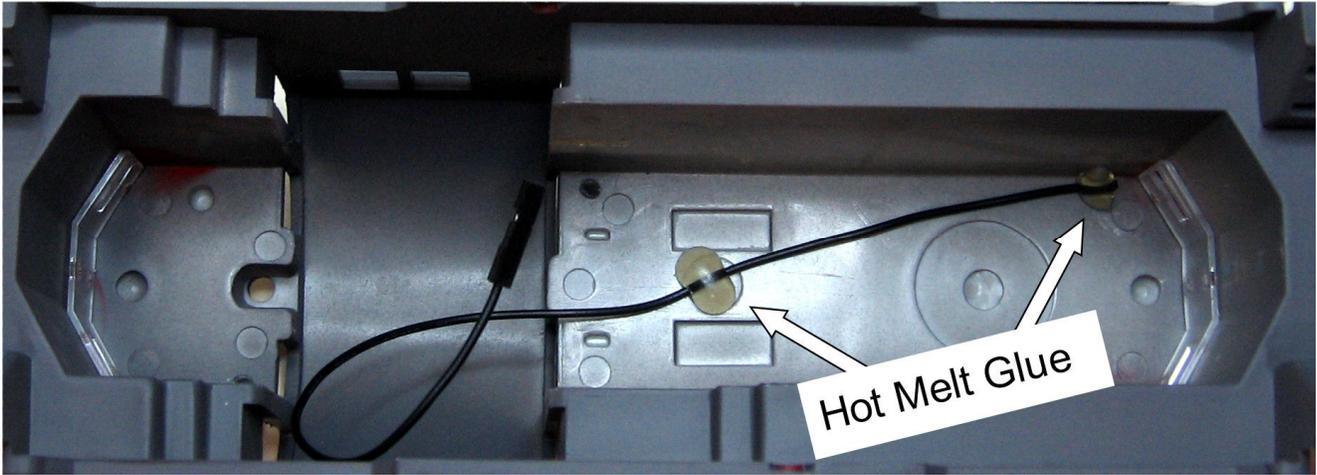

Figure 5 – Antenna installed in shell
3. Install the antenna in the shell wire as shown in Figure 5. The antenna is best attached to the shell with hot melt glue (as shown). Tape may be used, but it tends to dry out or become gooey.